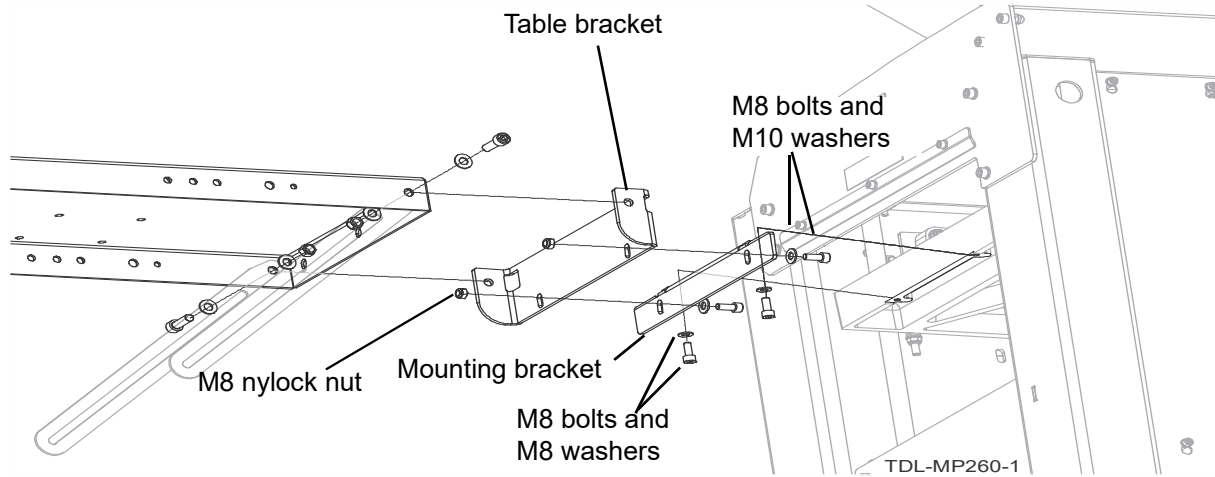

FIG. 3-2
1. Install the mounting bracket onto the MP260 base table with the M8 bolts and washers; adjust the bracket in the slotted holes to mount flush with the vertical surface of the MP260 table. See FIG. 3-2 .